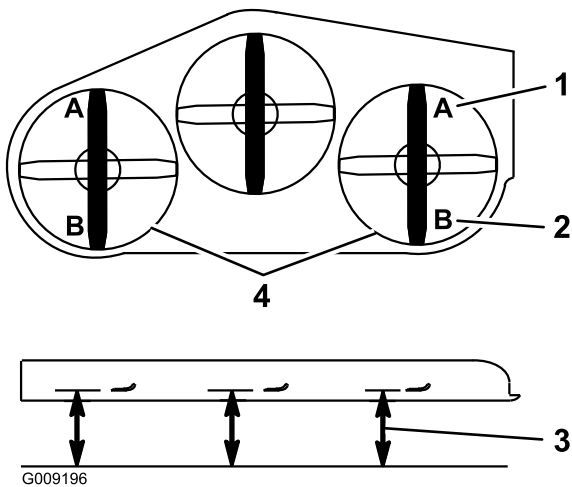

Figure 89
9. On both sides of the deck, measure from the level surface to the front tip of the blade (Position A). The measurement should read 3 inches (7.6 mm) (Figure 89).
15. On both sides of the deck, measure from the level surface to the back tip of the blade (Position B). The measurement should read 3 1/4 inches (8.3 cm) (Figure 89).